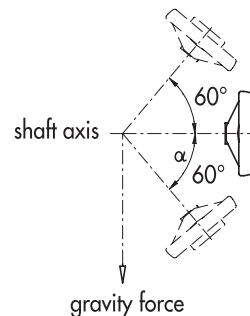

Fig.3
- 5.1** The gravity indicator is more accurate when used on horizontal control spindles. It can be however used on spindles max 60° inclined, but the accuracy decreases as the angle of inclination α° increases (fig. 3).